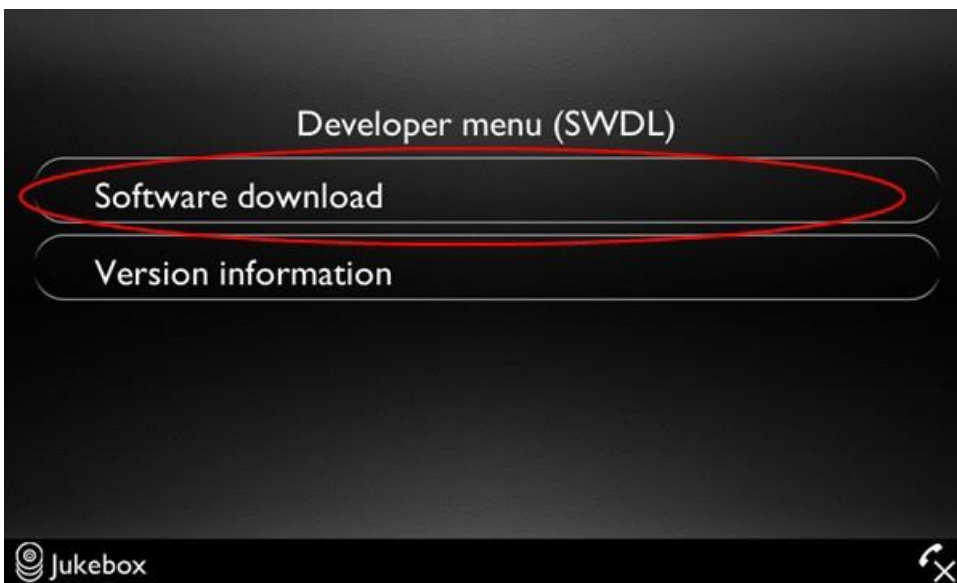

Figure 5
4. Select the Software download option (Figure 5).